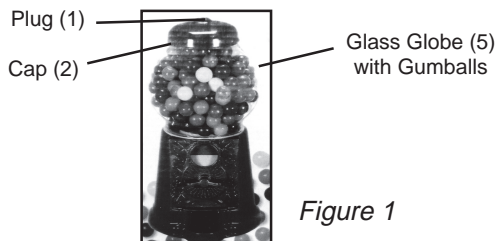

Figure 1
1. Works with all coins, pennies, nickels, dimes and quarters. Dispenses Gumballs, Peanuts, Jelly Beans, and more. To add Gumballs or other small objects to the Gumball Machine, you must first unscrew the Plug (1) at the top and remove the Cap (2). Pour Gumballs (not included) slowly into the Glass Globe (5). Reassemble the Cap (2) and Plug (1). **See Figure 1.**